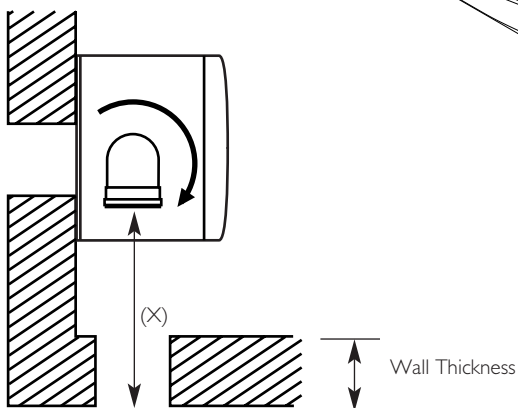

Fig. 35
3. Measure the distance from the outside wall face to the elbow. This dimension will be known as 'X' (Fig. 35).